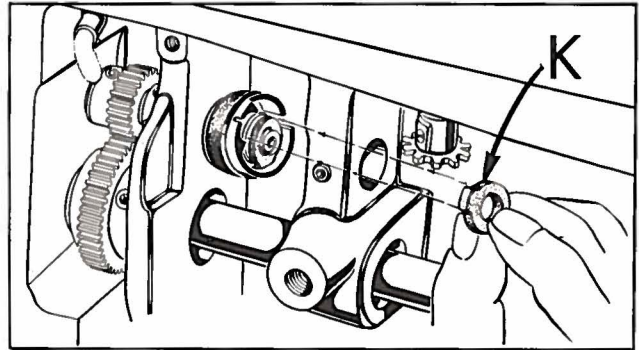
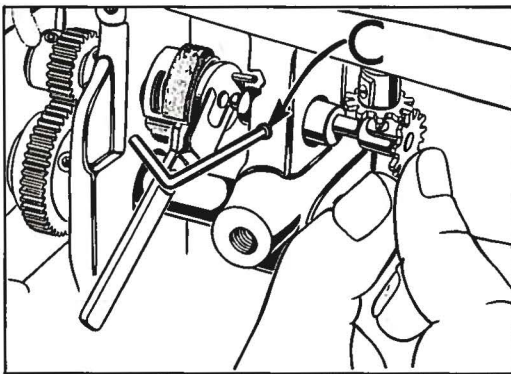

Fig. 24
Fig. 25
3. Position oil supply felt (K, Fig. 24) on hook shaft making certain the felt's projection extends into dovetail of metering cup.
4. Position air seal felt (J) on hook shaft.
5. Insert pump disc (F) into assembly tool No. 21227 BY, with stop pin on the spring side of tool, 180° from handle. Insert disc approximately half way into spring and center in tool (Fig. 25).
6. Insert hook oil control shaft (D) and its bushing (L) part way into its boss which is located directly behind the hook shaft, being careful NOT TO DROP the pump disc pivot pin (E).
7. A clearance cut on the edge of the metering cup, located between the dovetail and the long horizontal slot, has been provided for the pump disc tool and should be facing you (Fig. 25).
9. Press hook oil control shaft bushing (L) to left until control shaft (D) is approximately 1/16 inch away from pump disc (F). Make sure the control shaft pivot pin (E) seats in the depression at the center of the pump disc. Tighten set screw (C, Fig. 25) and withdraw assembly tool. Be sure air seal felt (J) has seated against the pump disc.